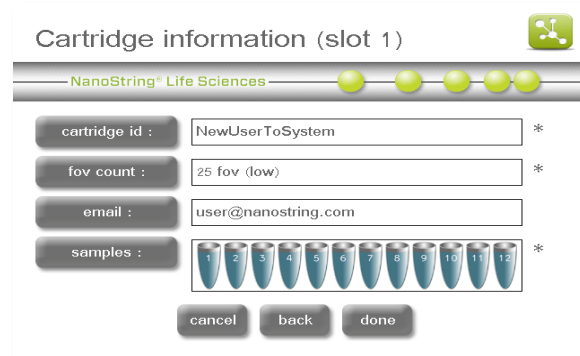

Figure 87: The 'Cartridge Information' screen, displaying details for slot 1.
- Select the CDF to be used and press **next**. The 'Cartridge information' screen will appear (**Figure 87**).